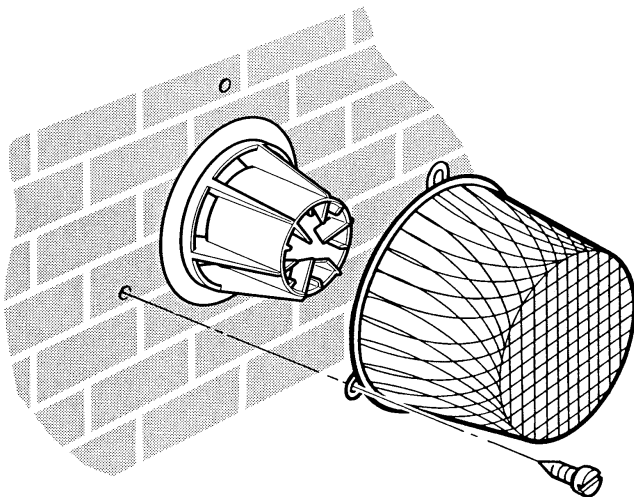

Fig. 61
5.14 Fitting a Terminal Guard (Fig. 61)